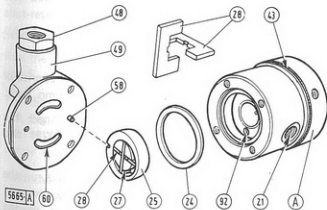

Fig. 72 - Transfer Pump, Hydraulic Head and End Plate
Dismantle the pump using the special tools indicated in the associated list. To prevent transfer pump liner failure (see 27, Fig. 72), which incorporates a left-hand thread, use tool No. **290744** and unscrew in an anti-clockwise direction.
- Transfer pump liner (25, Fig. 72) has a single assembly position and is restrained by locating pin (58) pressed in end plate (49). In case of doubt as to the correct assembly position, note that the locating pin is to be fitted to the side bearing the letter "A" stamped on the outer surface.
Run the pump at the speed indicated for test Nos. 1 and 2 and check that 406 mm. Hg of vacuum are reached within the specified time. Insufficient vacuum could be due to incorrect reassembly (regulating valve, end plate 49, Fig. 72, or pump liner), inefficient seals, or excessive wear or failure of pump vanes. Subsequently, check the transfer pressure using a 0-10 kg/cm² gauge. If necessary, pump priming should be carried out prior to testing.